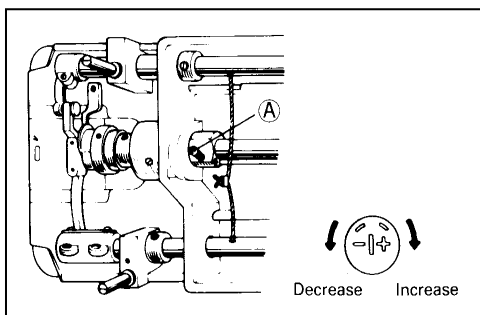

Fig.8
**11、 Adjustment of the hook lubrication (Fig.8):**